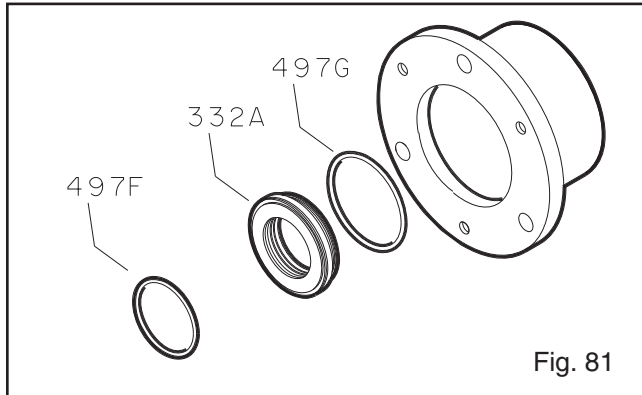

Fig. 81
- Remove outboard labyrinth seal (332A) from bearing housing (134). Remove O-rings (497F), (497G) if necessary (Fig. 81).